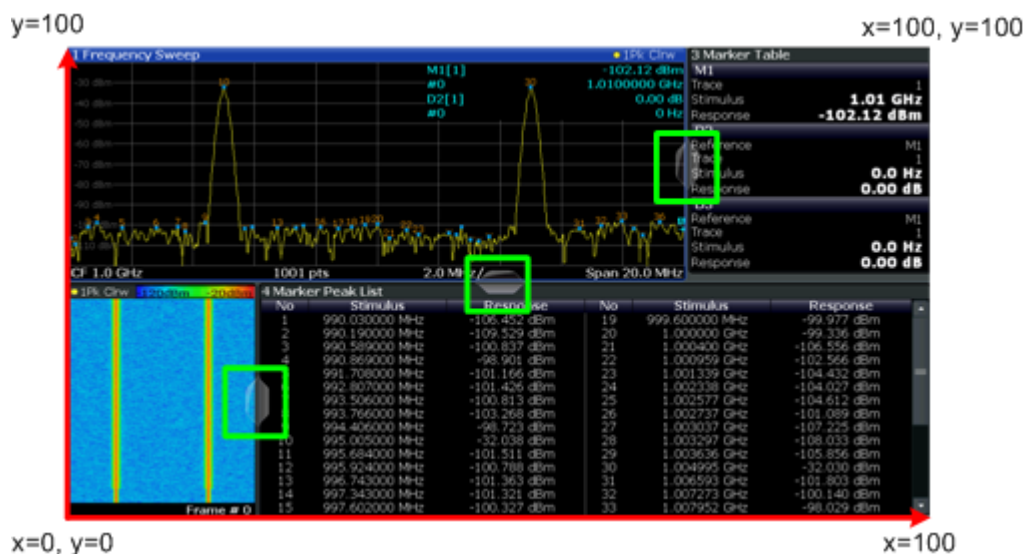

Fig. 10-1: SmartGrid coordinates for remote control of the splitters
- <Position> New vertical or horizontal position of the splitter as a fraction of the screen area (without channel and status bar and softkey menu). The point of origin ($x = 0$, $y = 0$) is in the lower left corner of the screen. The end point ($x = 100$, $y = 100$) is in the upper right corner of the screen. (See figure 10-1.)